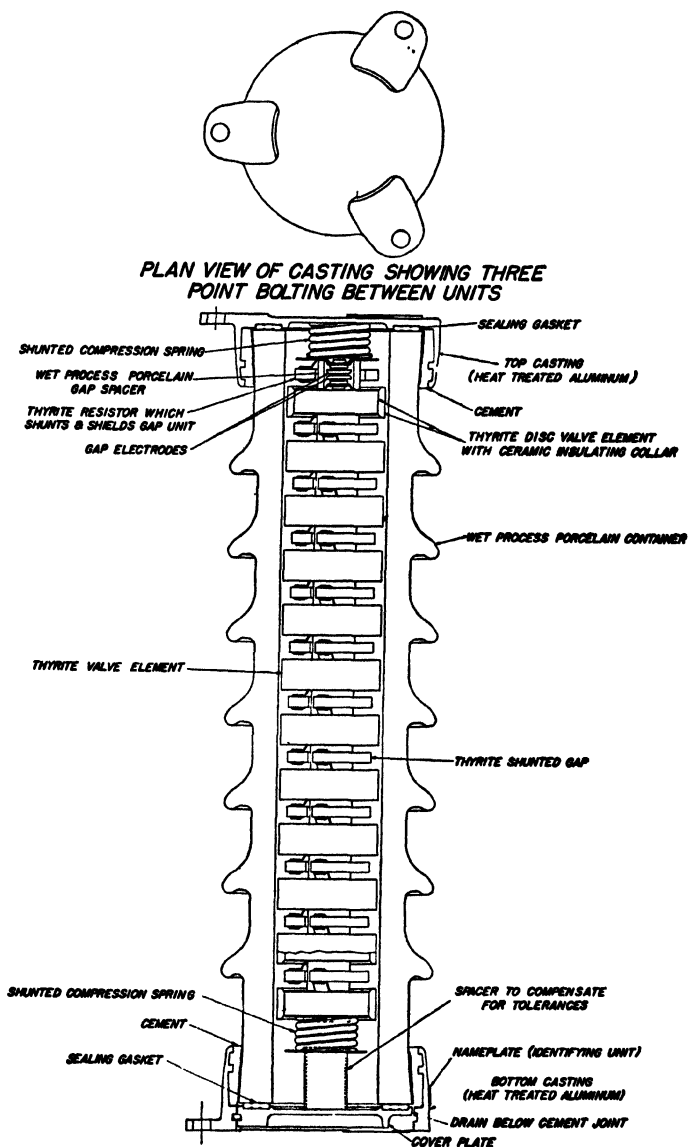

FIG. 6-10. Thyrite lightning-arrester unit with section cut away to show thyrite disks and series-gap unit. (Courtesy General Electric Co.)
*Thyrite Arrester. Construction* This type of arrester consists essentially of stacked thyrite disks connected in series with a gap. These two elements are enclosed in a porcelain tube covered on both ends with aluminum castings. Each unit is rated 11.5 kv. As many units as necessary to withstand the line voltage are coupled together. A cross-sectional view of a standard unit is shown in Fig. 6-10.